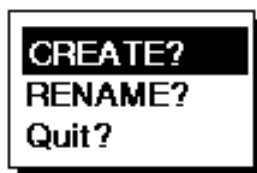

Figure 4-20 CREATE, RENAME prompt
5. Select the waypoint which will come after the waypoint to be inserted. In Figure 4-20, for example, if you want to insert a waypoint between KOBE and 001, select 001.